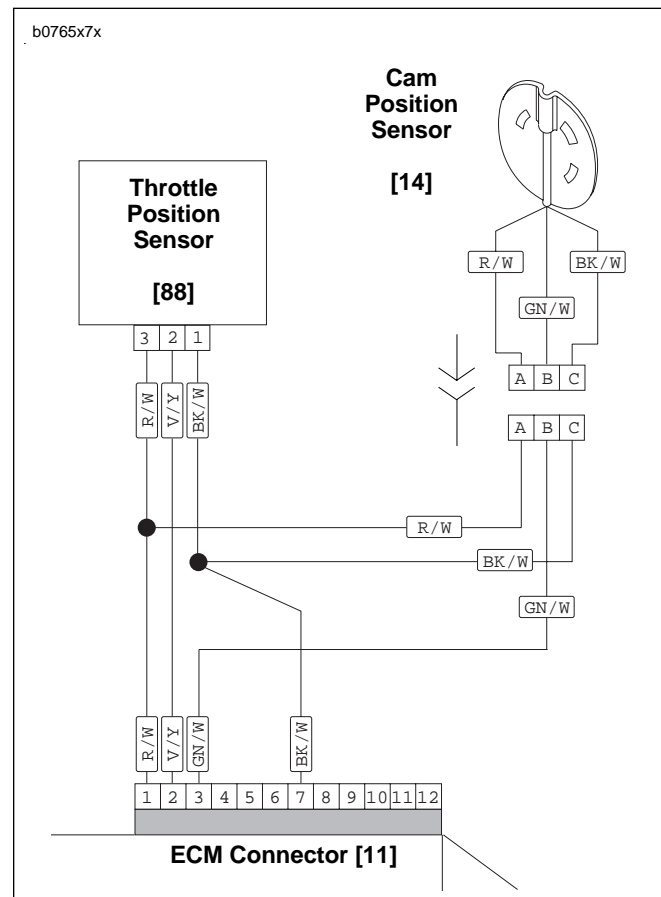

Figure 4-70. Connecting Sensor Wires
- Install trigger rotor (17).
- Apply LOCTITE THREADLOCKER 243 (blue) to threads of bolt (18).
- Position trigger rotor (17) onto end of camshaft aligning notch with camshaft slot.
- Install cam position sensor (18) and timer plate studs (4). Rotate cam position sensor to its previously marked position to obtain approximate ignition timing.
- See Figure 4-70. Install sensor wiring terminals into correct positions in plug end of connector [14]. R/W, GN/W and BK/W wires of plug end (from cam position sensor) must match same color wires in receptacle end of connector (from ignition module wiring harness). Install pin terminals. See B.2 DEUTSCH ELECTRICAL CONNECTORS under B.1 AMP MULTILOCK ELECTRICAL CONNECTORS.